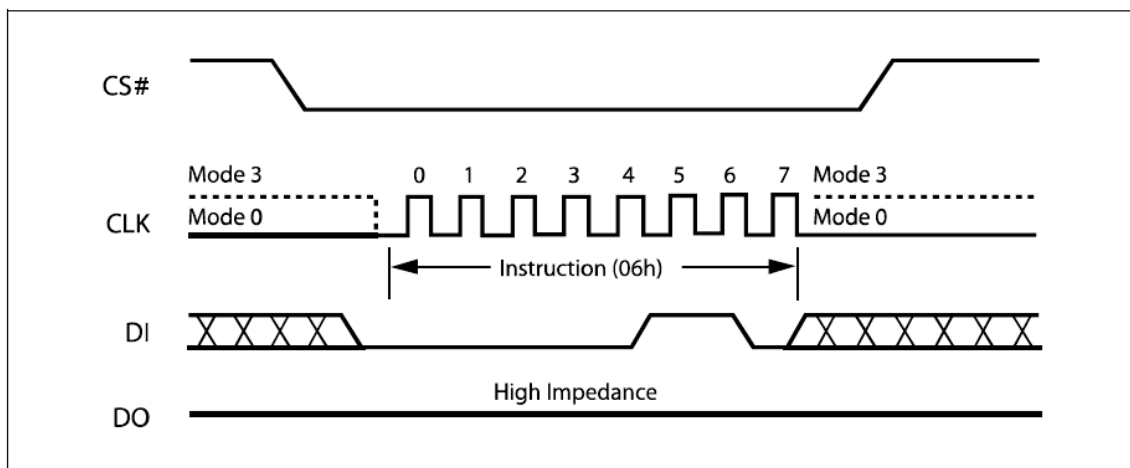

Figure 8. Write Enable Instruction Sequence Diagram
The Write Enable (WREN) instruction (Figure 8) sets the Write Enable Latch (WEL) bit. The Write Enable Latch (WEL) bit must be set prior to every Page Program (PP), Quad Input Page Program (QPP), Sector Erase (SE), Block Erase (BE), Chip Erase (CE) and Write Status Register (WRSR) instruction. The Write Enable (WREN) instruction is entered by driving Chip Select (CS#) Low, sending the instruction code, and then driving Chip Select (CS#) High.